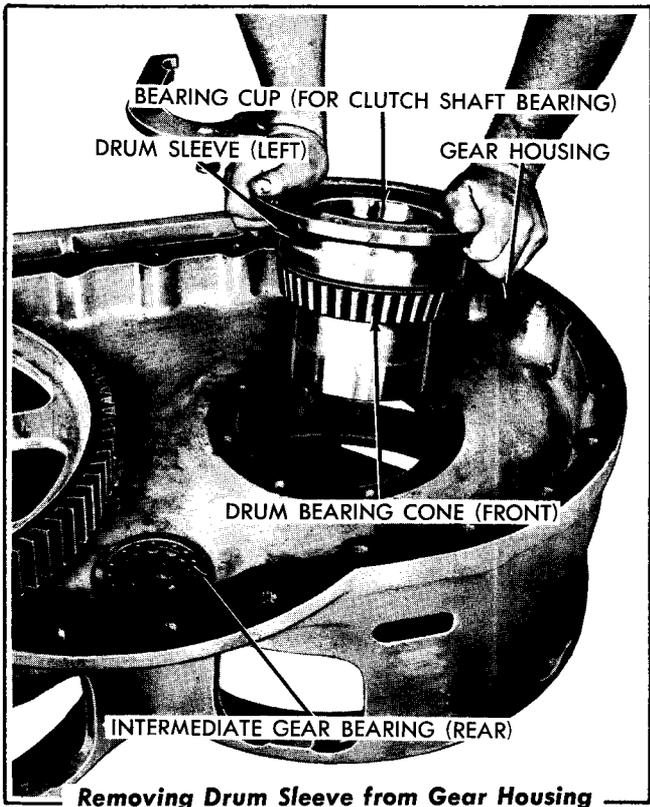

FIG. 37
1. Install a drum bearing cone (front) in position on each drum sleeve (Fig. 37), if the cones have been removed. Install a bearing cup (Fig. 37) for each clutch shaft rear bearing cone in position in each drum sleeve, if the bearing cups have been removed.